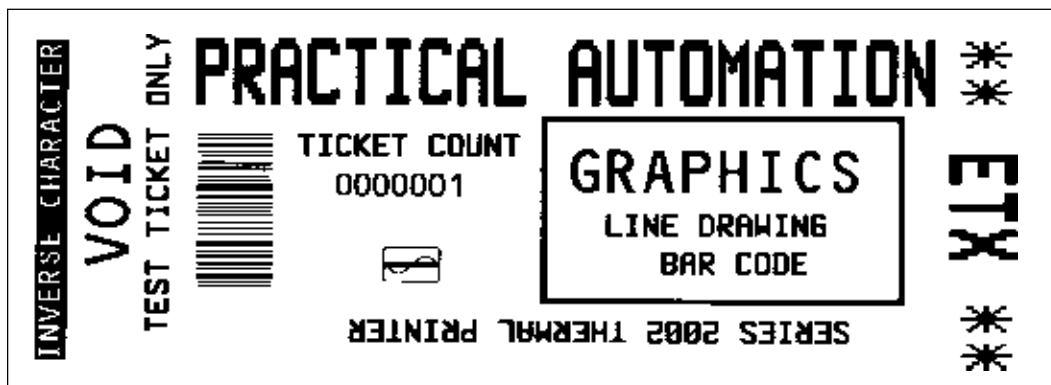

Figure 2-6. Typical Test Ticket
- d. Press the Test/F1 pushbutton switch on the front panel. The printer should print a test ticket as shown in Figure 2-6.